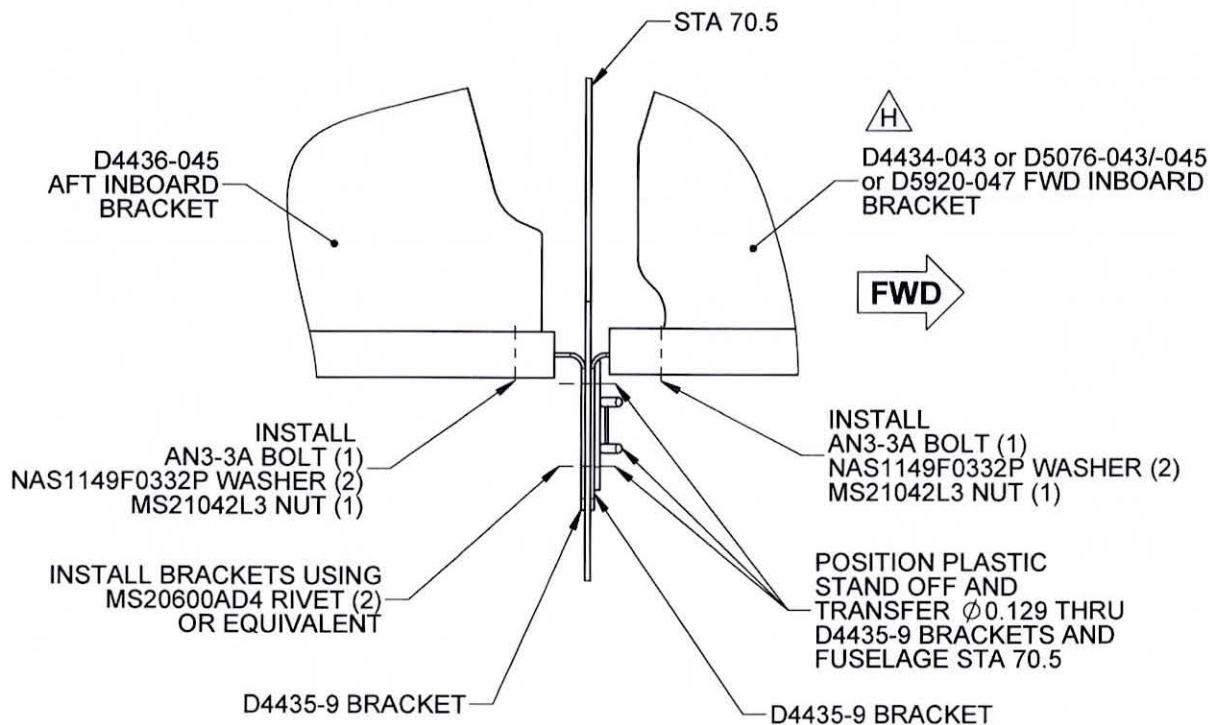

**Figure 9. D4436-043/-049 Aft Outboard Bracket Installation**
- 4.7 Install D4436-043/-049 Aft Outboard Bracket using AN3-3A bolt and NAS1149F0332P washer and MS21042L3 nut per Figure 9. For -147 installations, ensure the opening in the D4436-049 Aft Outboard Bracket is over the Garmin Transponder per Figure 15.